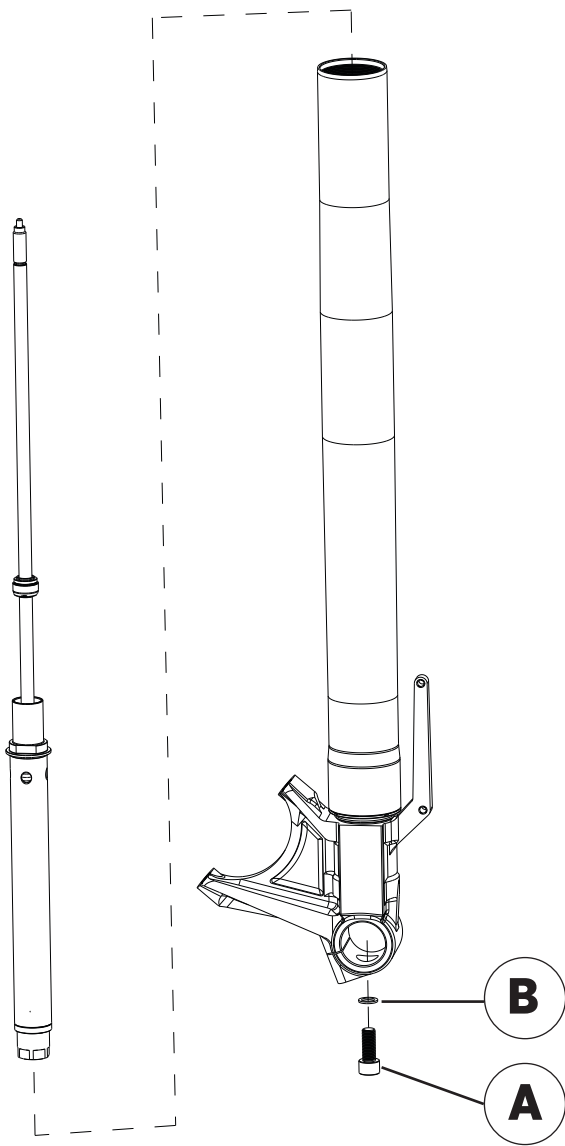
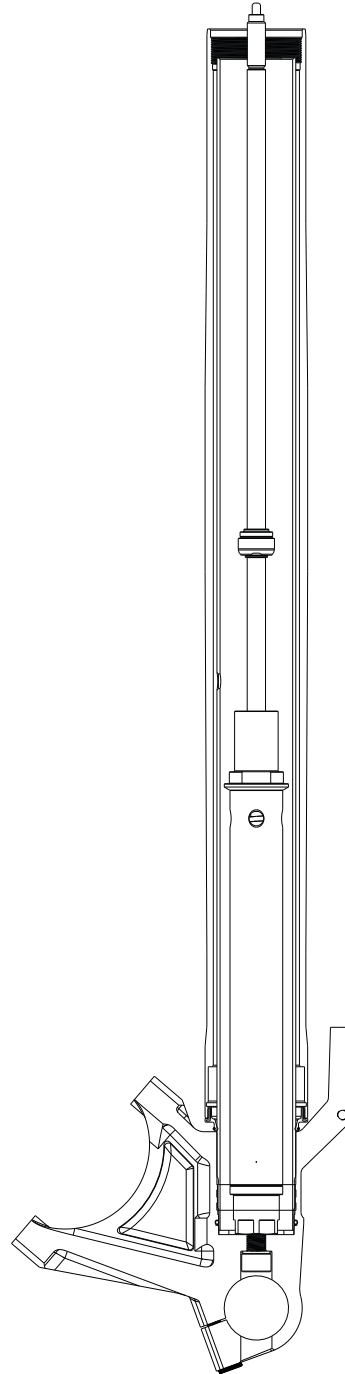

Fig. 8: Install the cartridge (compression leg shown)
Fig. 9: Install the cartridge (compression leg shown).
2. Insert the cartridge assembly: the rebound cartridge installs into the right fork leg (throttle side), and the compression cartridge installs into the left fork leg (clutch side). Confirm that the installation matches the diagram (Fig. 8 and Fig. 9).